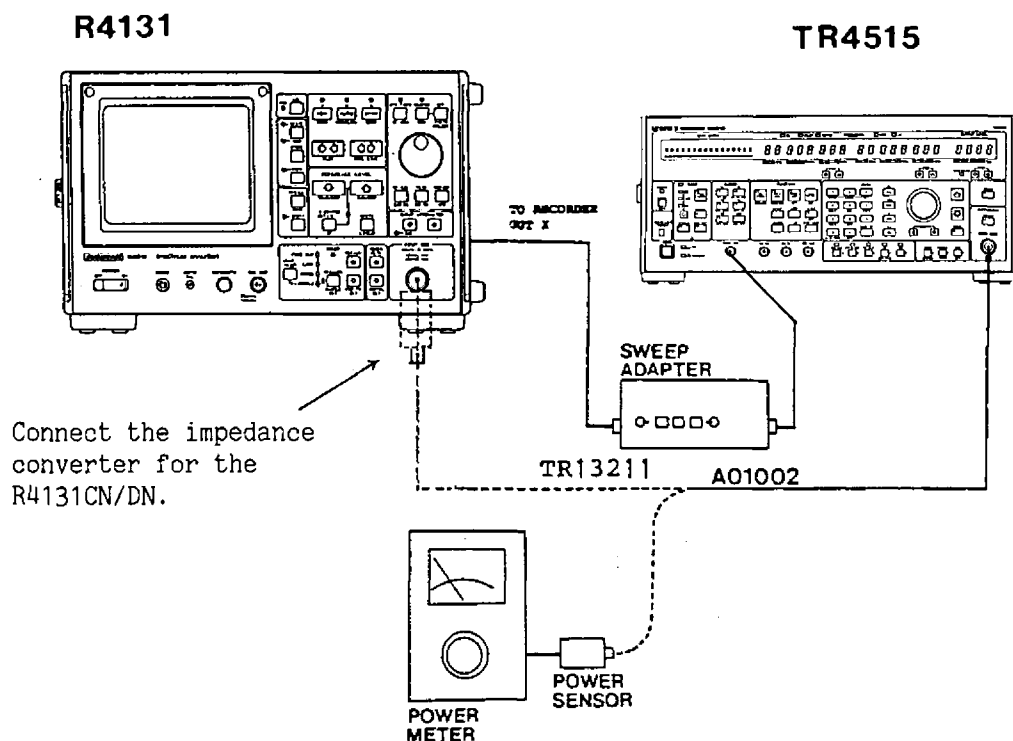

Figure 11-19 Frequency Response Test Setup
- ② Set the sweep oscillator output to 200 MHz (CW), -10 dBm and connect it to the power meter using the A01002 cable. Adjust the output level of the sweep oscillator to -10 dBm. (See Figure 11-19.)
- ③ Connect the sweep OSC output to the spectrum analyzer INPUT connector. Connect the impedance converter for the R4131CN/DN. (See Figure 11-19) With its amplitude set to 2 dB/division, set the reference level to display a 200 MHz signal on the center axis of the display screen.
- ④ Set the sweep oscillator to the external sweep mode, and set the start and stop frequencies to 10 MHz and 4 GHz, respectively.
- ⑤ Press the sweep adapter START switch, and adjust the START dial to display the signal at the leftmost position on the display screen. Next, press the STOP switch and adjust the STOP dial to display the signal at the rightmost position on the display screen.